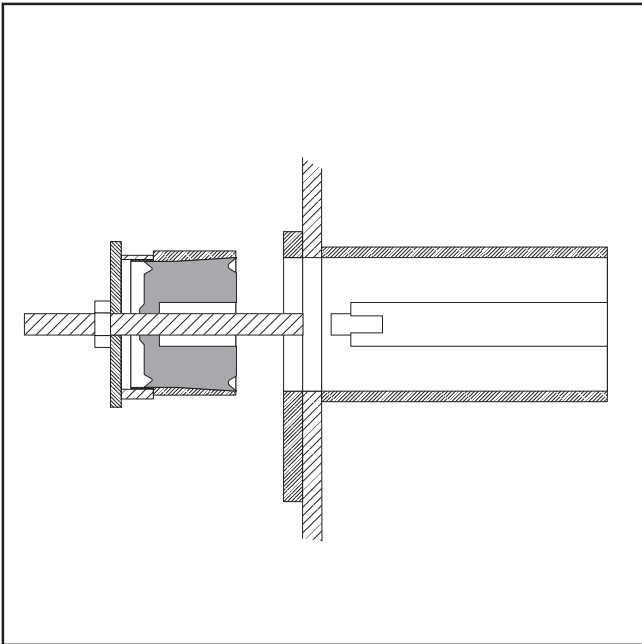

FIG.67
- Remove the piston with the guide ring (FIG. 67).